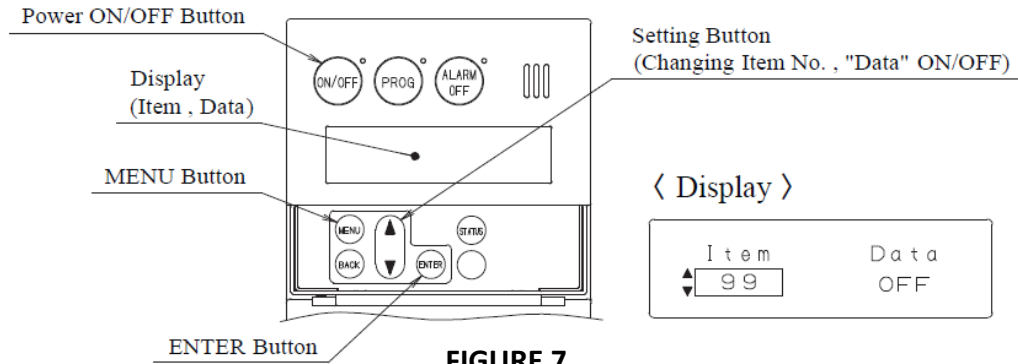

FIGURE 7
- 4) **FOR REMOTE CONTROLLER RC-9018M (FIGURE 7):** After accessing the Maintenance Writer mode, use the “ENTER” button to select from “Item” or “Data”. Press the “up” and “down” buttons to change the Maintenance Writer “Item” number display and on “Data” to “ON” or “OFF”.